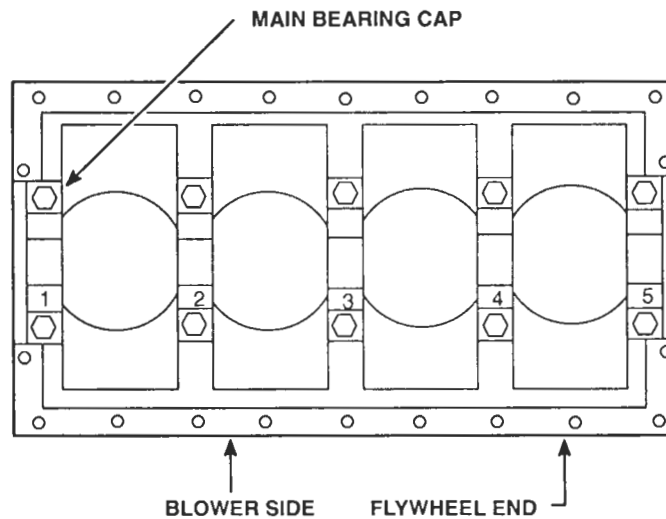

Figure 17. Cylinder Block Markings
Bearing caps are numbered to correspond with their respective positions in the cylinder block. It is imperative that the bearing caps are reinstalled in their original positions to maintain the main bearing bore alignment. The number of the front main bearing cap is stamped on the face of the oil pan mounting flange of the cylinder block, adjacent to its permanent location in the engine as established at the time of manufacture. The No. 1 main bearing cap is always located at the end opposite the flywheel end of the cylinder block (Figure 17.), regardless of engine rotation or accessory arrangement. As originally manufactured, the main bearing caps are installed with the numbered side facing the blower side of the engine. Machining of the cylinder block and main bearing caps is such that the mating parts are "offset" to prevent installation of the bearing caps 180° from their correct position. However, if an engine has been converted for a new application and the cylinder and bearing numbering sequence has been reversed, the bearing caps must be reinstalled in the original positions regardless if the block and bearing caps have or have not been renumbered.
2. If a new service replacement block is used, stamp the engine serial number and model number on the pad located in the upper right-hand corner on the blower side of the block. Also, stamp the position numbers on the main bearing caps (Figure 17.) and the position of the No. 1 bearing on the oil pan mounting flange of the block.